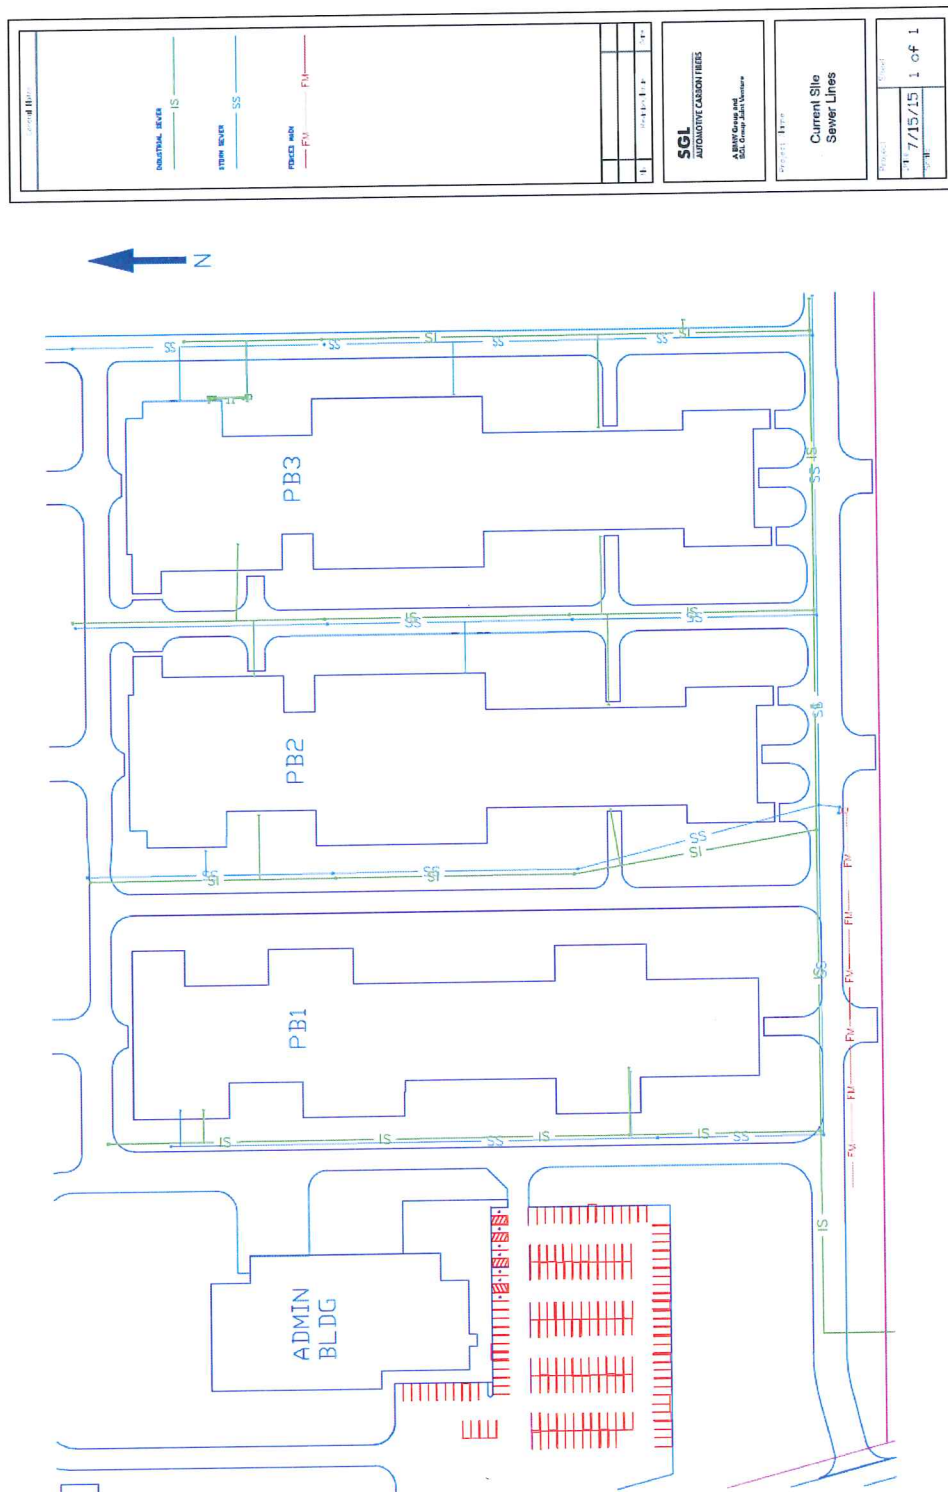

Figure.1 SGL ACF waste water flow diagram
**2.** The SGL ACF industrial waste water includes but is not limited to reverse osmosis reject water, periodic discharges from bicarbonate rinse baths, boiler blow downs, and onsite nitrogen plants' condensate. All the waste water created at SGL ACF is either discharged to the POTW or to the POML using separate pipelines. The facility's domestic waste water from the office and the production buildings gravitationally flows to the domestic sewer lift station at the SE corner of the property before being discharged into the POTW system. The SGL ACF's process building floor drains and industrial waste water gravitationally flow towards the south, into a wet well, Manhole# 14, before it is discharged to the POML's lift station. Figure.1 shows the SGL ACF waste water flow diagram. There is no waste water treatment and storage capacity at the SGL ACF facility.